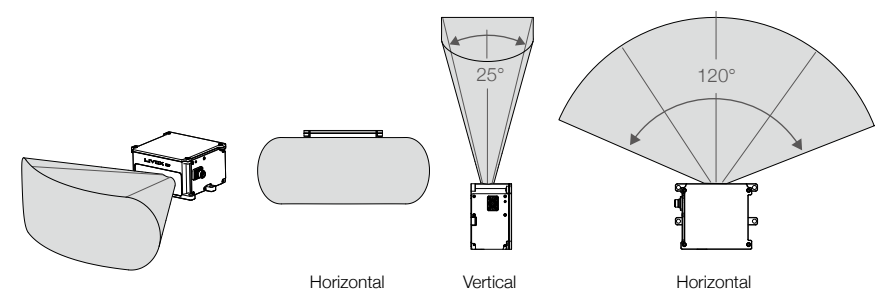

Figure 3.1.1 Effective FOV of the HAP (TX)
- 2. Significant dust and stains on the optical window will affect the performance of the LiDAR sensor. Follow the instructions in the Maintenance section to clean the optical window using compressed air, isopropyl alcohol, or a lens cloth. Mount the HAP (TX) after cleaning it.
- 3. When mounting the HAP (TX), the field of view must not be blocked by an object, including glass. Refer to Figure 3.1.1.
- 4. When mounting the HAP (TX), allow a space of at least 10 mm around the device to prevent poor airflow affecting heat dissipation, and make sure the waterproof breathable valve is not blocked.
- 5. The HAP (TX) cannot bear any extra payload. Otherwise, the reliability of the product cannot be guaranteed.